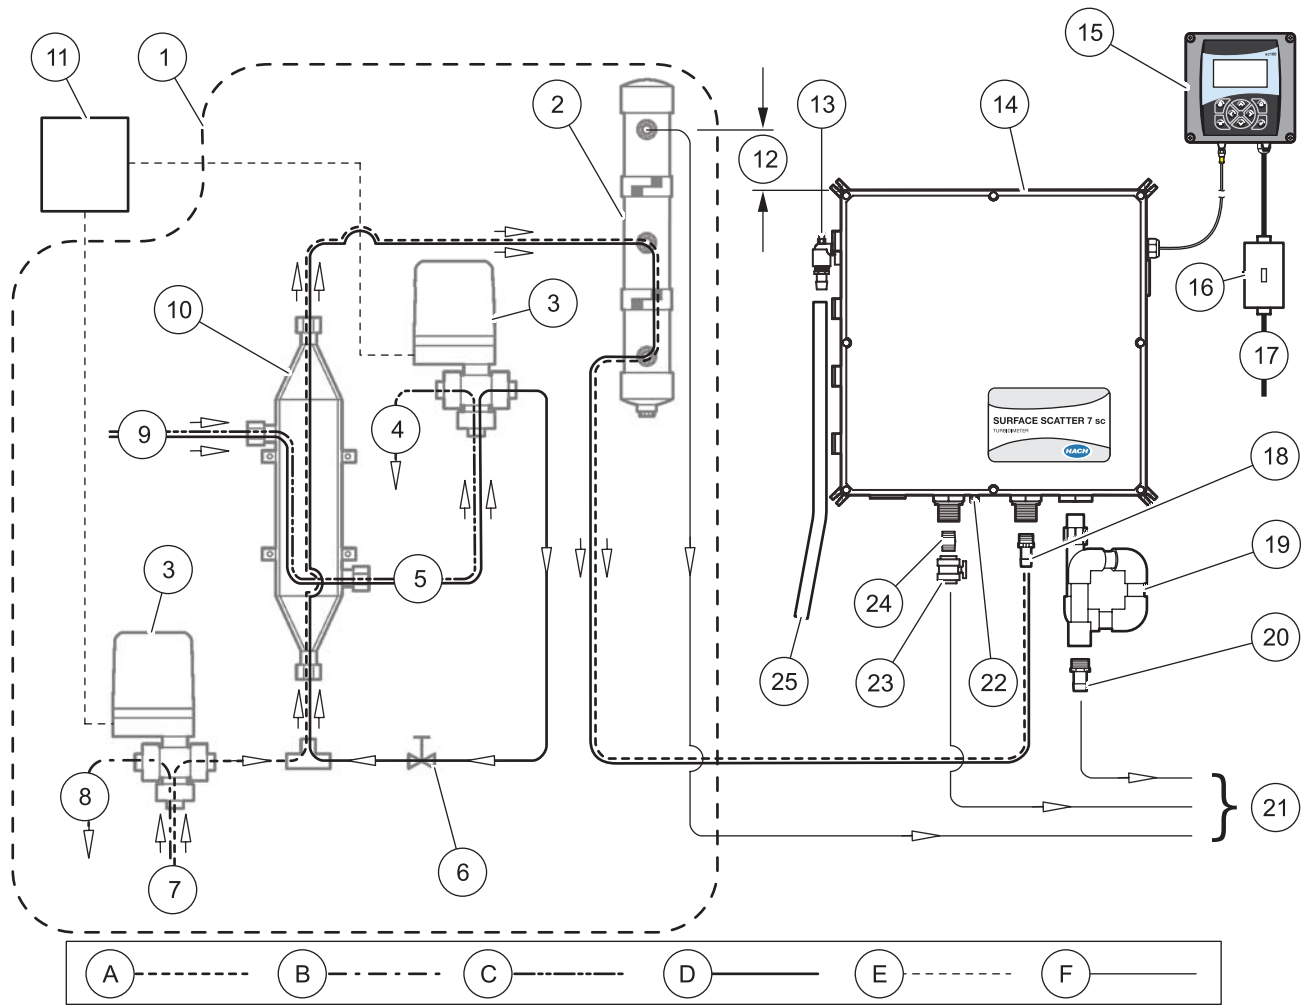
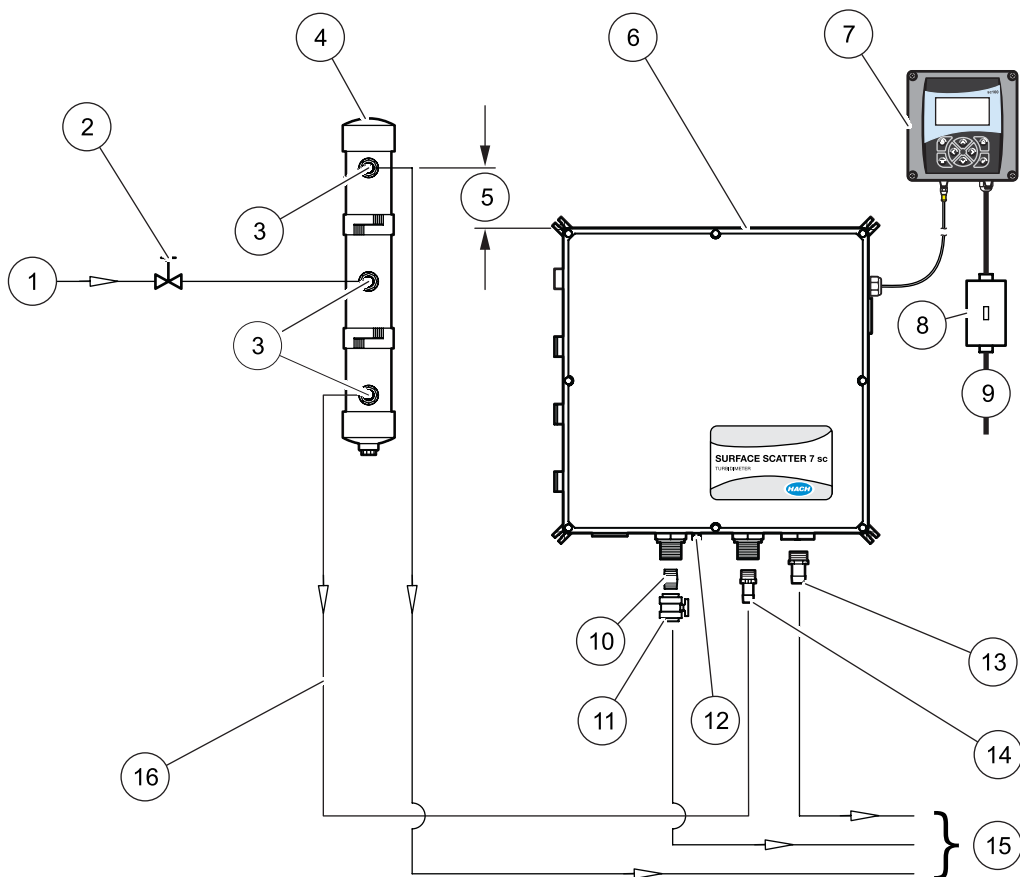

Figure 12 SS7 sc-HST plumbing diagram
Figure 13 SS7 sc plumbing diagram
- See Figure 12 on page 22 for heat exchanger connections.
Install the Bubble Trap/Head Regulator so the overflow is at least five inches above the top of the sample unit enclosure (Figure 12 on page 22). However, installation height can vary based on local sample conditions and flow requirements. See the installation instructions supplied with the Bubble Trap/Head Regulator for more information.
Air purge helps control condensation and corrosive vapors within the sample unit and is recommended. Use dry instrument air only. See Figure 12 and Figure 13 for installation details.